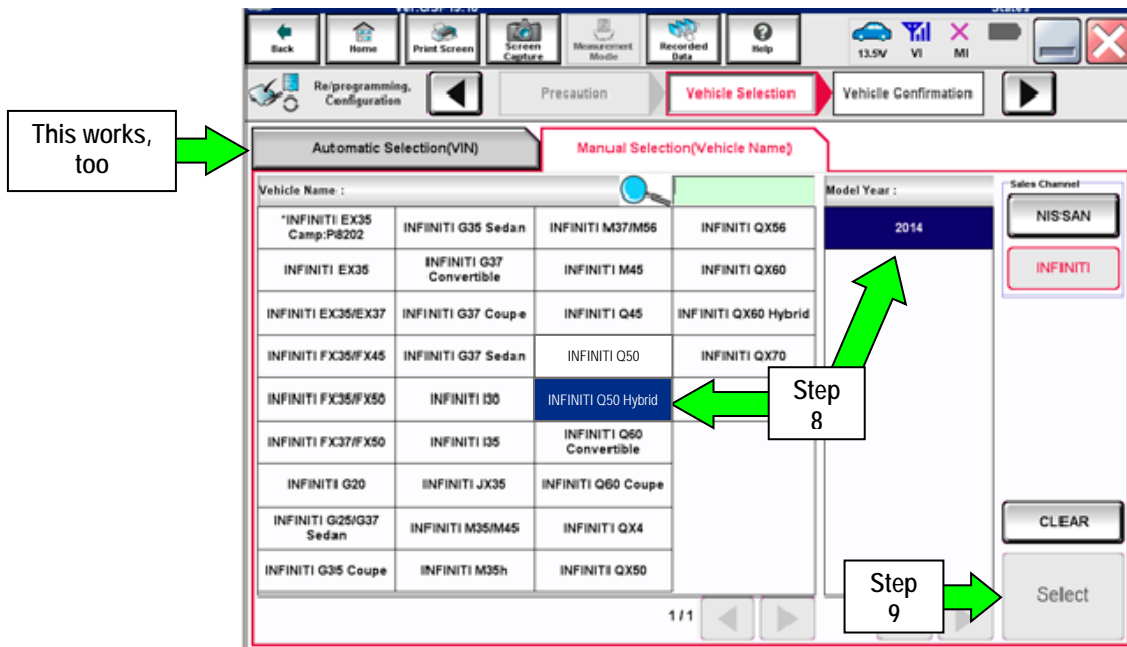

Figure 3
- If **Automatic Selection(VIN)** is selected, or the screen in Figure 3 does not display, skip to step 10.